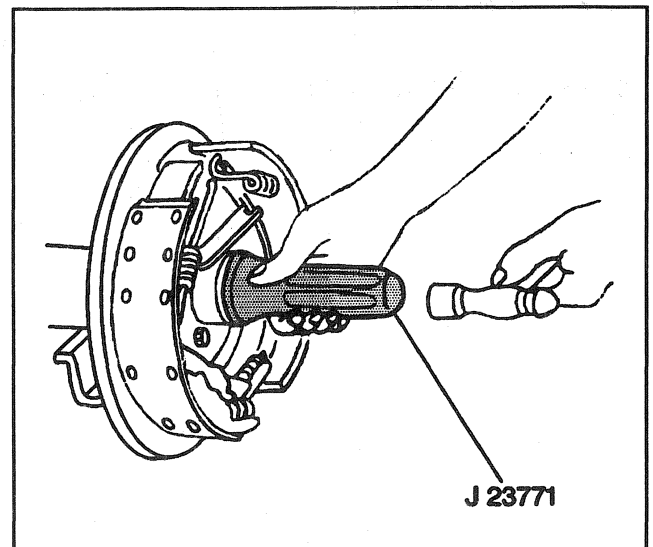

Figure 27—Installing the Axle Seal
2. Oil seal using J 23771 until the seal is flush with the axle tube (Figure 27).